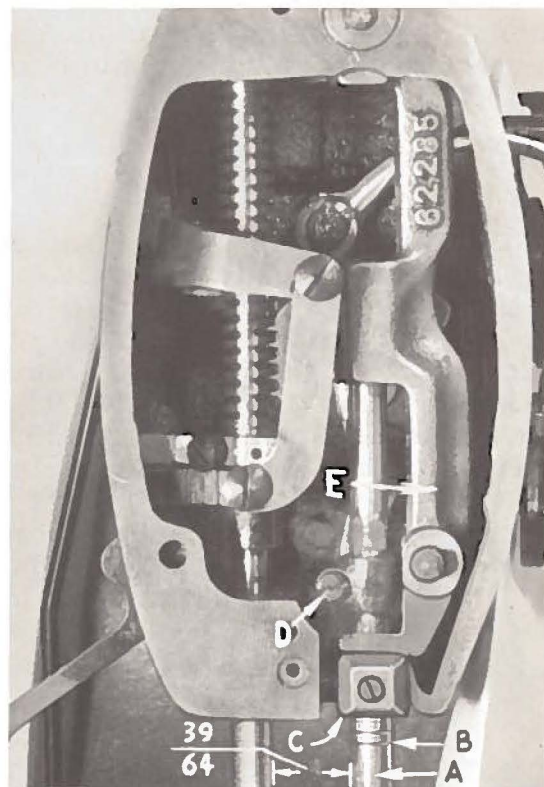
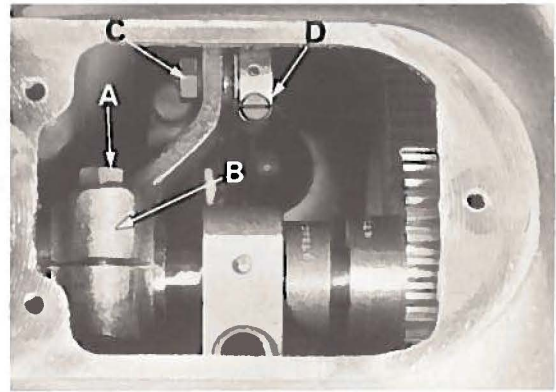

Fig. 7
Fig. 8
The setting of the needle bar (A, Fig. 7) to the proper needle bar height timing line will, in practically all cases, produce the optimum location of the needle loop with respect to the hook point for proper loop pick up.
A maximum "down" position of the needle bar may be established by turning the handwheel in the operating direction until the crank pin and the needle bar connecting link align perpendicular behind the needle bar. (Looking into end as shown by Fig. 7, pin and link cannot be seen).
Needle bar height adjustment is governed by the length of the needle used. Two sets of timing lines (B, Fig. 7) are engraved on every needle bar to assure accurate timing. The upper pair is used when Type 180 GXS or 180 GYS "short length" needles are specified and the lower pair is used with needle Type 182 GA "long length".
To position the needle bar in relation to the presser bar, first set the needle bar at the bottom of its stroke. Then, remove the top reservoir cover at the right end of the machine. Loosen clamp nut (A, Fig. 8) of the feed driving lever (B) and swing the needle bar frame (E, Fig. 7) forward or backward in the line of feed until the factory specified distance of $39/64$ to $5/8$ inch is obtained between the needle bar and the presser bar. (Gauge No. 21227 BL is available for measuring this adjustment). After needle bar meets required setting, tighten clamp nut (A, Fig. 8) and re-assemble cover.
If a finer adjustment is necessary, loosen nut (C, Fig. 8) and move ball joint (D) forward or backward as required. Tighten nut (C).
Visually check position of the needles. Make sure their spots face their respective hooks. Now, turn handwheel in operating direction to obtain a maximum "down" position of the needle bar. When this has been reached, continue to turn until lower timing line (of the pair selected) (B, Fig. 7) is flush with the bottom of the lower needle bar bushing. At this time, the hook point should be approximately $1/32$ inch above needle eye.